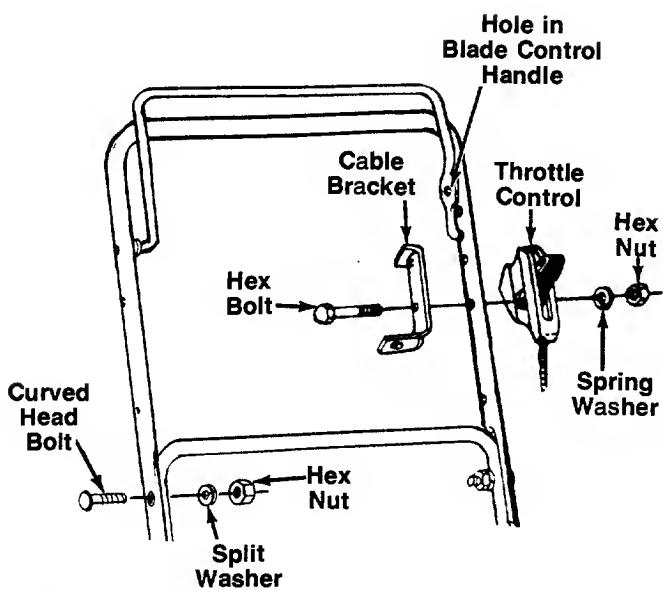

FIGURE 2.
2. Secure the upper handle to lower handle using the curved head bolts, split washers and hex nuts as shown in figure 2.
Attach the throttle control to the **left** side of upper handle as follows. See figure 2.